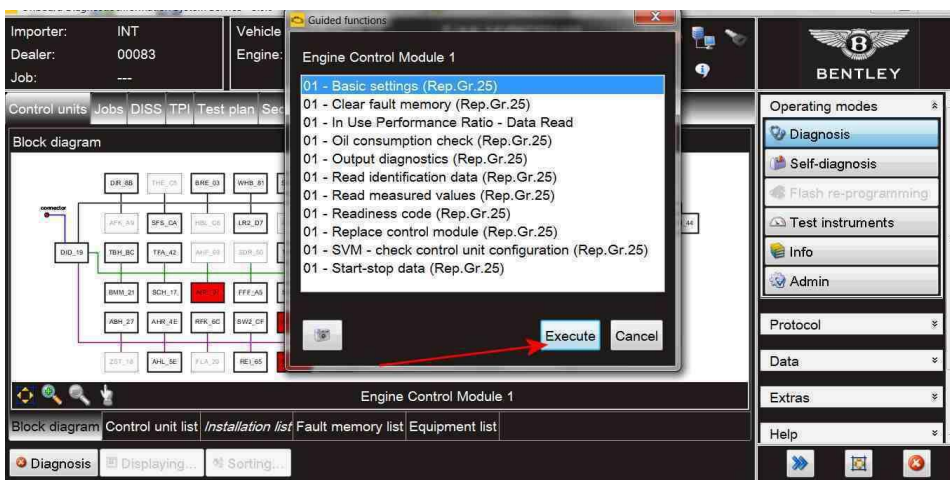

Figure 7
- Referring to Figure 7 - Navigate to the Engine control module 1